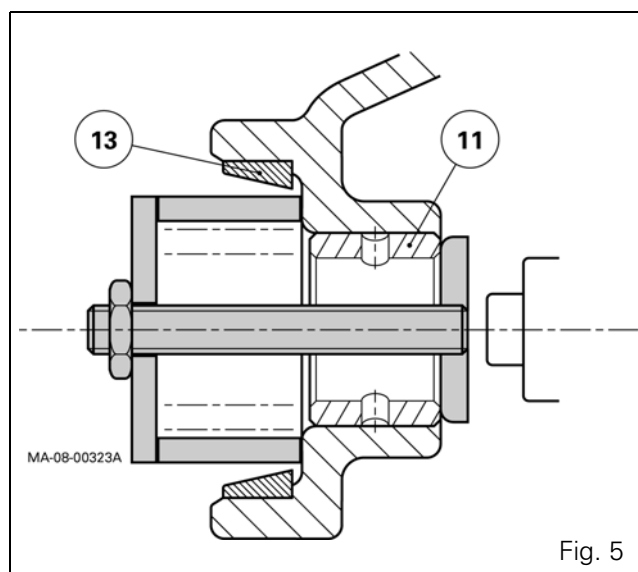

Fig. 5
8. Extract the shaft assembly (25) and bearing cone (19), while holding the clutch assembly (16) and the bell gear (15).
9. Remove the clutch assembly (16) with the bell gear (15) and the cone (14).
10. Using a makeshift tool (see § G), extract the ring (11) (Fig. 5). This tool is essential for tractors with proportional PTO. If necessary, also remove the cup (13) using a suitable extractor.